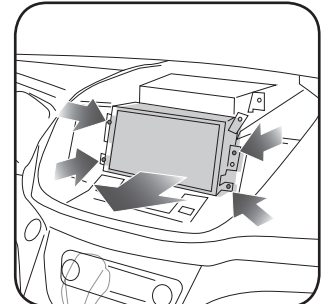

Fig. 1.4
4. Remove four (4) 7mm screws securing the screen. Unplug and remove the screen. (Fig. 1.4)